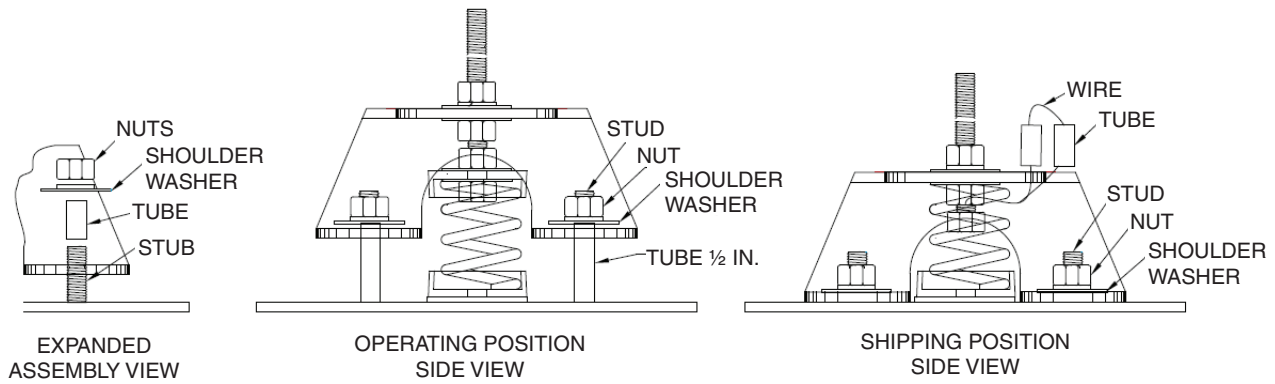

Fig. 10 — Fan Assembly
1. Inspect fan and drive assembly (see Fig. 10). Adjust belt (if applicable) to appropriate tension and alignment.